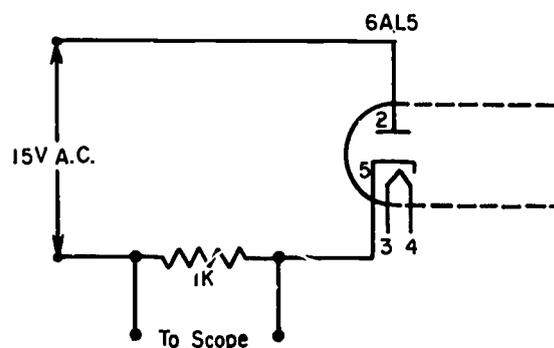

Figure 21
**Rectification**—The rectifying action of diodes can be shown by using the circuit shown in Figure 21.